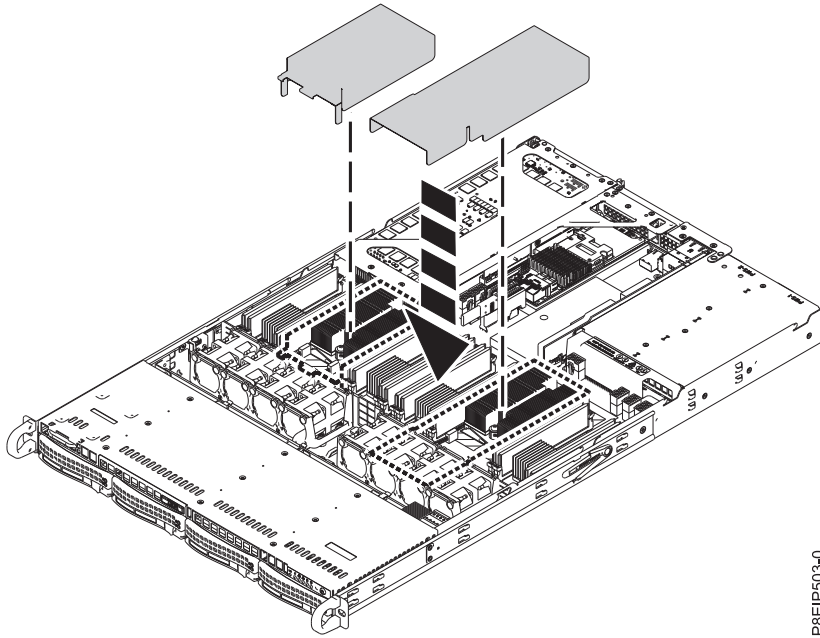

Figure 61. Installing the processor air baffle
20. Install the processor air baffle as shown in Figure 61 on page 54. Insert the edge of the baffle into the fan support. Then, carefully press the baffle down into place.